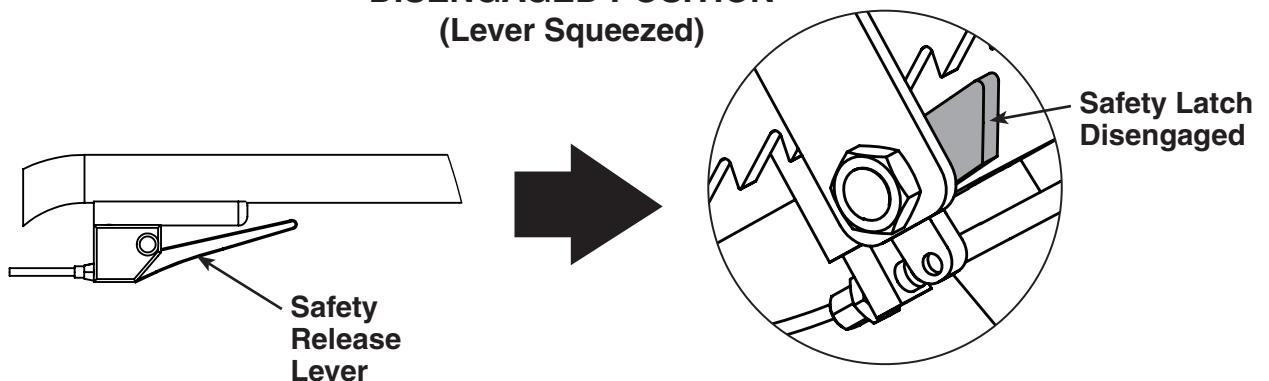

Figure 4
1. Turn forcing screws in/out fully to ensure proper function of platform tilting feature. See Figure 4 of “Fine Adjustment Tilting Feature” section.